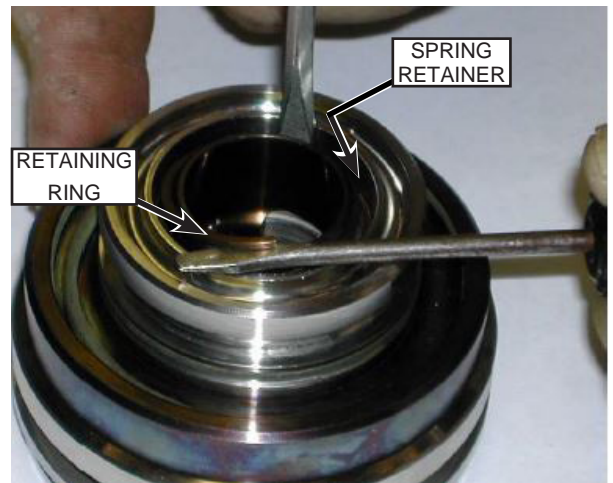

Fig. 91: Retaining Ring Removal
3. Use a small screwdriver to depress the spring retainer. Use another screwdriver to remove the retaining ring. Insert the blade under the slit and rotate the ring out of the groove. Use caution to prevent bending or distorting the ring. Refer to Fig. 91.